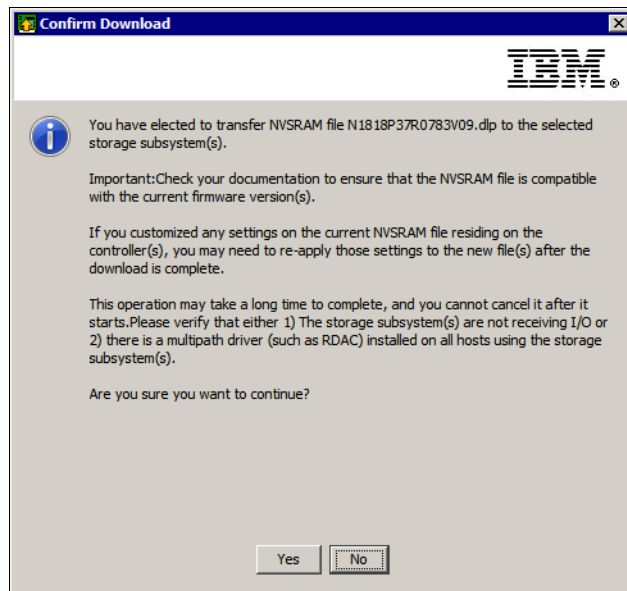

Figure 14-41 Confirm NVSRAM download
3. After you select the NVSRAM file that you want to install, click **Transfer...** to begin installing the new NVSRAM file on the storage subsystem. The Confirm Download window opens (Figure 14-41). Read the information and click **Yes** to start the NVSRAM download.